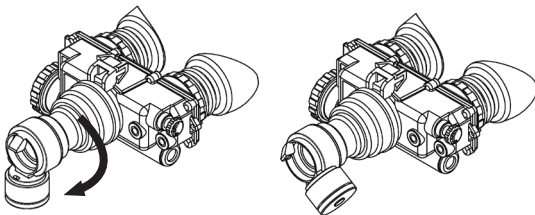

Figure 4-3. Compass Installation
4. Press the compass assembly onto the objective lens at an angle using your left hand. Slowly turn the compass assembly counterclockwise until it is in the vertical position (with compass illumination button pointing down). See Figure 4-3.